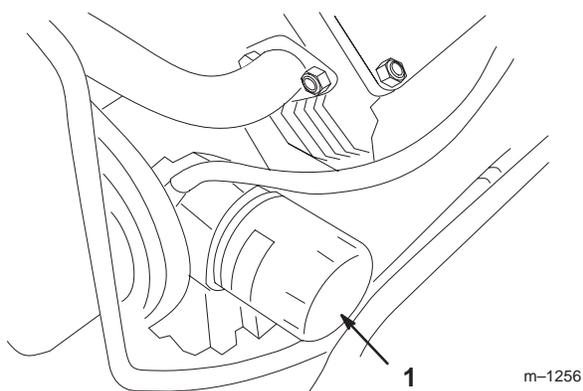

Figure 28
3. Remove the old filter (Fig. 28) and wipe the surface of the filter adapter gasket.